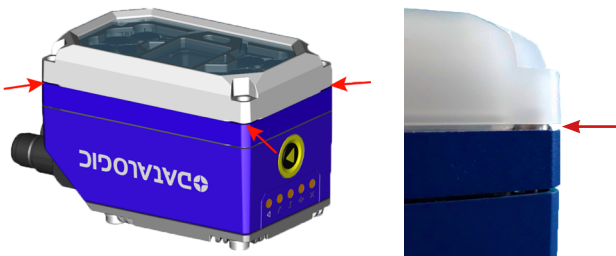
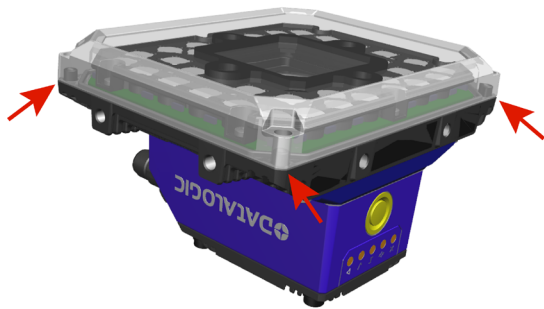

Fig. 1 - Removing the cover (14 LEDs model)
Fig. 2 - Removing the cover (36 LEDs model)
2. Remove the cover. The cover will remain attached to the body because of the gasket. To unmount it properly, it is recommended to gently lever the cover from its corners using a flat blade screwdriver between the cover and the body of the reader. See Fig. 1 and Fig. 2.